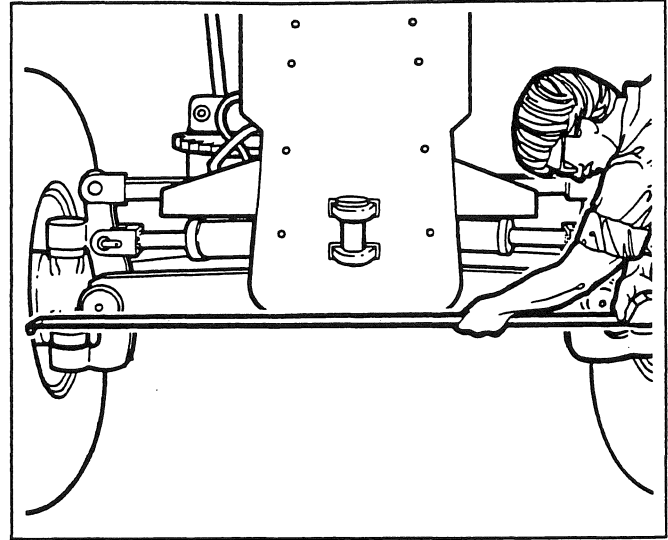

Fig. 18
- Again measure the distance between the tires at the marks (see Fig. 18). The front measurement should be one half to five eighths of an inch (1,3 cm to 1,6 cm) less than the rear measurement.